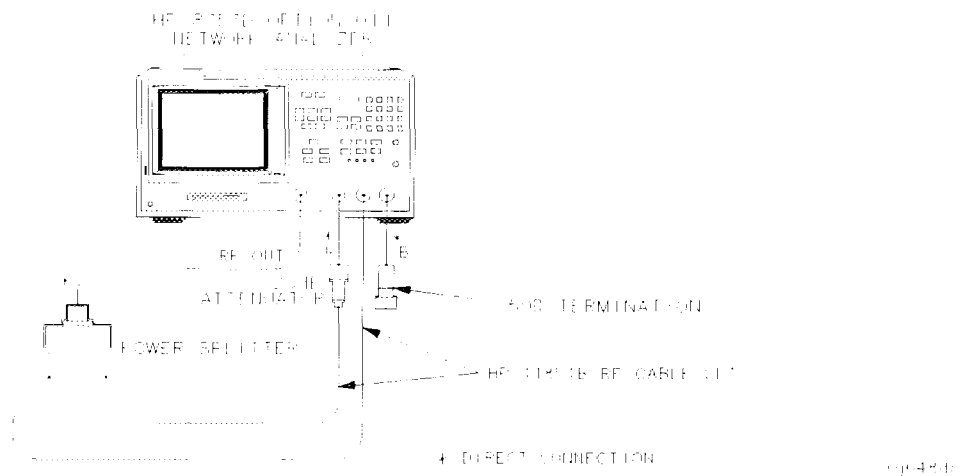

Figure 6-15. A into B Receiver Input Crosstalk Test Setup
- 32** Connect the equipment as shown in Figure 6-15.